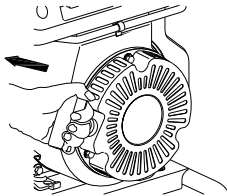

figure 4-5
- (5). Pull the start handle until resistance is felt, and then yank it(See figure 4-5).